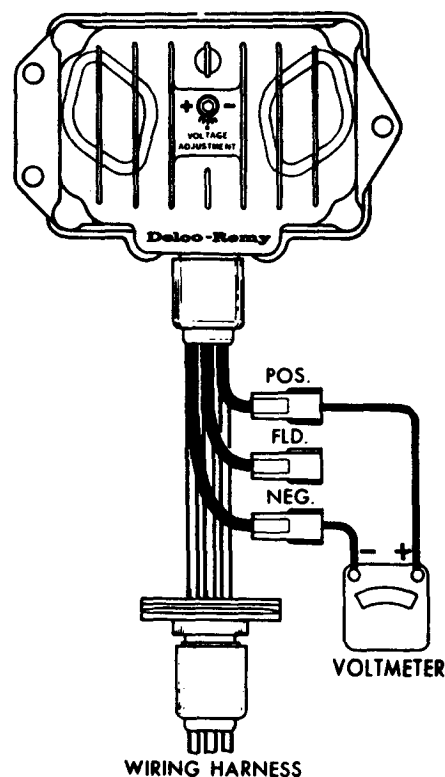

Figure 9—Voltmeter connections to test adapter.
1. Connect a voltmeter to the test adapter as shown in Figure 9.
- i. To check the regulator, connect a voltmeter as shown in Figure 9 and operate the engine at moderate speed. If the voltage is uncontrolled and increases with speed to values above the specified setting range, replace the regulator.